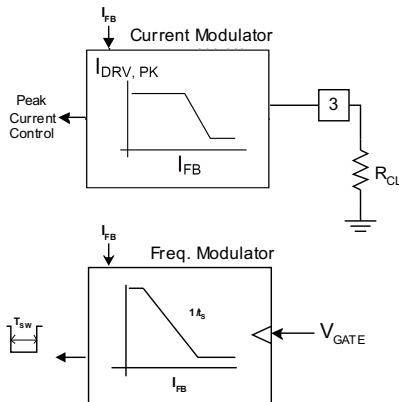
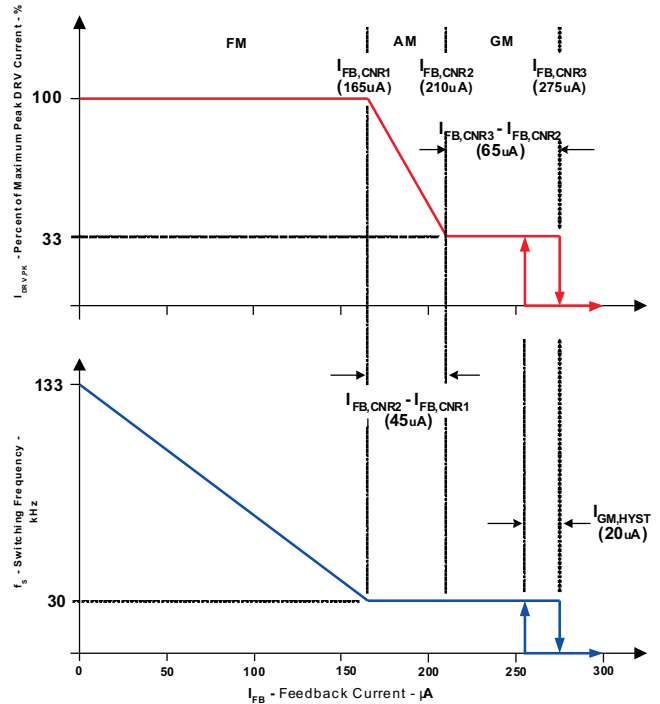

图 25. Modulation Control Blocks
图 26. Control Diagram with Operating Modes
Under normal operating conditions, the FB current commands the operating mode of the UCC28610, as shown in 图 25 and 图 26. The FB current commands the UCC28610 to operate the converter in one of three modes: Frequency Modulation (FM) mode, Amplitude Modulation (AM) mode, and Green Mode (GM).
The converter operates in AM mode at moderate power levels (2.5% to 22% of the peak regulated power). The FB current regulates the output voltage by modulating the amplitude of the peak HV MOSFET current from 33% to 100% of the maximum programmed value while the switching frequency is fixed at approximately 30 kHz. The UCC28610 modulates the voltage on the CL pin from 3 V to 1 V to vary the commanded peak current, as shown in 图 25 and 图 26.